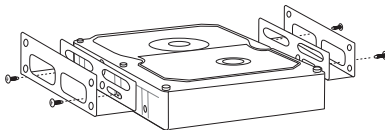

FIGURE 5
1. Attach the mounting brackets to the hard drive using the screws included with this kit. See Figure 5 for details.